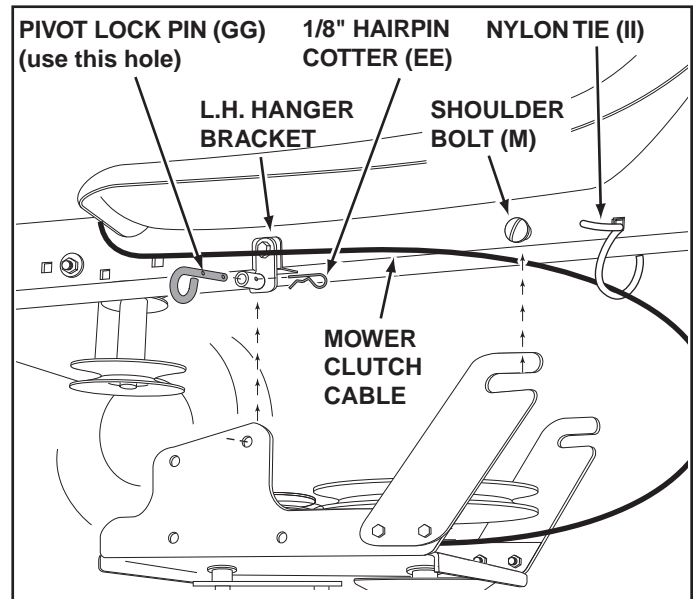

FIGURE 12
STEP 12: (SEE FIGURE 12)
- Attach the clutch/idler assembly to the tractor frame. Hook the notched suspension arms onto the two shoulder bolts (M) assembled to the outside of the tractor frame. Lift the front of the assembly and attach it to the R.H. and L.H. hanger brackets using two pivot lock pins (GG) and 1/8" hairpin cotters (EE).
- Loosely attach the mower clutch cable to the left side of the tractor frame with a nylon tie (II). **Do not** pull the nylon tie completely tight. The cable may need to be removed from the nylon tie when using the mower deck.